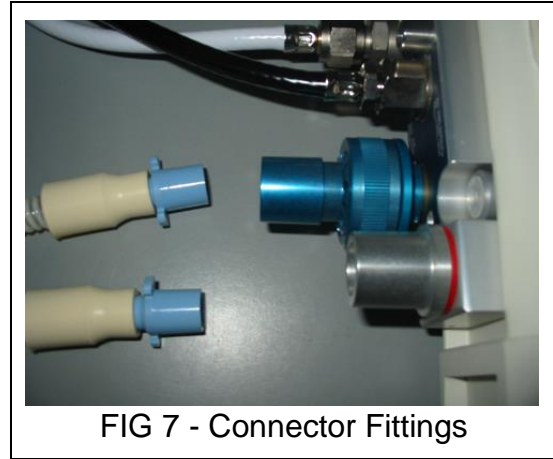

FIG 7 - Connector Fittings
- Connect the Y-ventilator circuit to the extension tubing with specific connectors (Fig 7).